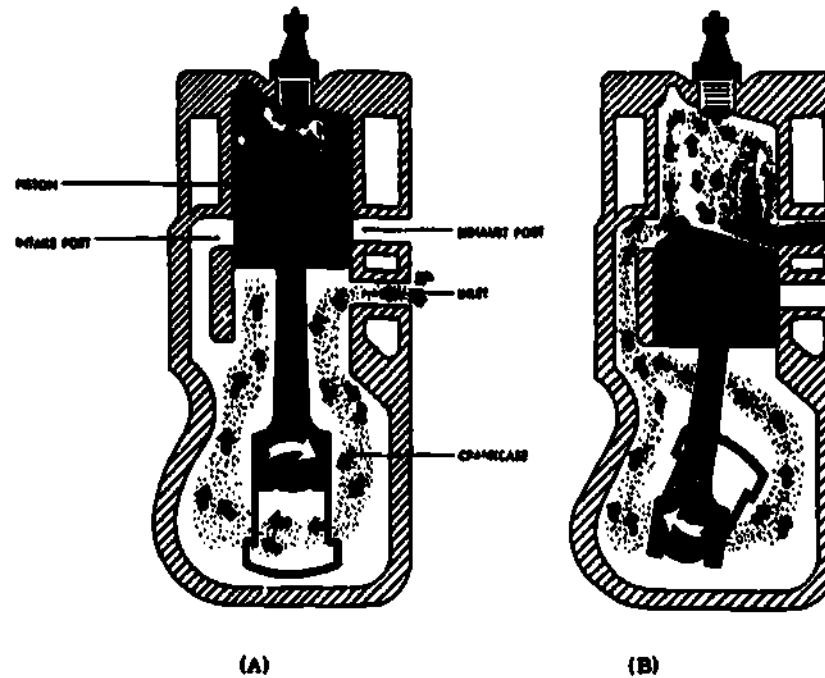

Fig 1-23. Events in a two-stroke-cycle.
The two-stroke-cycle engine may be used as either a spark-ignition or compression-ignition engine just as the four-stroke-cycle engine. The basic difference between this engine and the four-stroke-cycle is that all four events (intake, compression, power, and exhaust) must occur within two strokes of the piston instead of within four strokes. This means that every down-stroke is a power stroke and every up-stroke is a compression stroke. At some time during these two strokes you must get raw gases into the cylinder and burned gases out of the cylinder. Look at figure 1-23 to discover how this is accomplished. During the compression stroke (A), the gases are permitted to flow into the crankcase. The gases which are being compressed at this time ignite, driving the piston down on its power stroke. Near the end of the power stroke, the piston travels by two openings in the cylinder wall (B). One of these is the intake port and the other is the exhaust port. As the piston uncovers these ports, the burned gases are exhausted into the atmosphere, and the raw gases are permitted to leave the crankcase via the cylinder. Therefore, intake and exhaust occur at the same time. The piston now begins to travel upward inside the cylinder, closing both the intake and exhaust ports in the cylinder wall, and the fresh gases inside the cylinder are compressed to begin a new cycle.